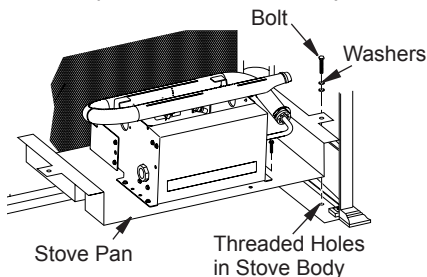

Figure 9 - Attaching Stove Pan (Oxford™ Model Shown)
9. Remove log box and heater from carton. Place heater in stove as shown in Figure 9. Use bolts from hardware kit to attach heater to stove.